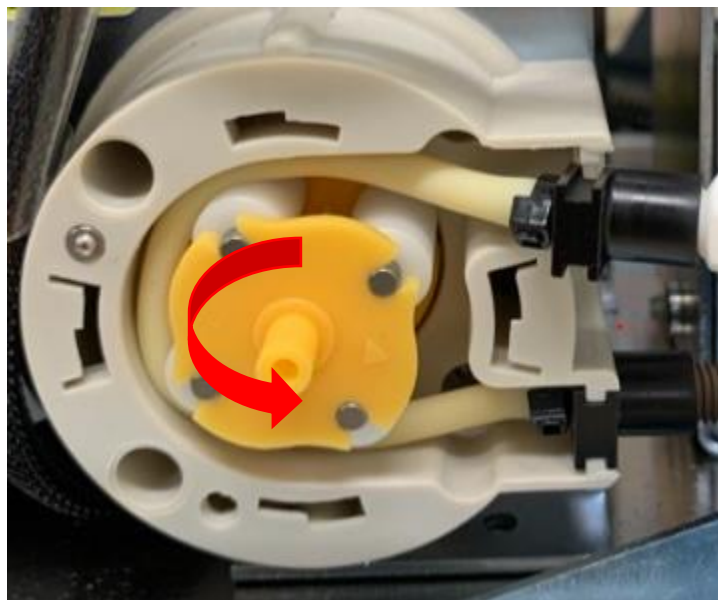

Figure 25
- 4.4. Repeat step 4.1 to remove blue cover from the Primary Pump. Remove the old tubing from the Primary Pump by gently pulling on the tubing through the alignment tabs within the pump housing. Rotate rotor to assist in removal. Figure 25.